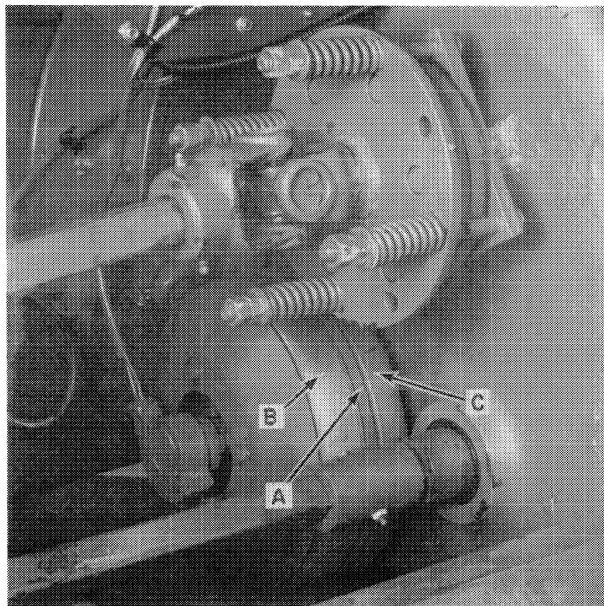

FIGURE 2-8
The armature, A, Figure 2-8, should have a minimum air gap, to the forward magnet, B, Figure 2-8, and reverse magnet, C, of 0.010" (0.3 mm). The air gap should be readjusted when the gap exceeds 3/32" (2.5 mm).
1. Measure the air gap between the armature, A, Figure 2-8, and forward magnet, B.